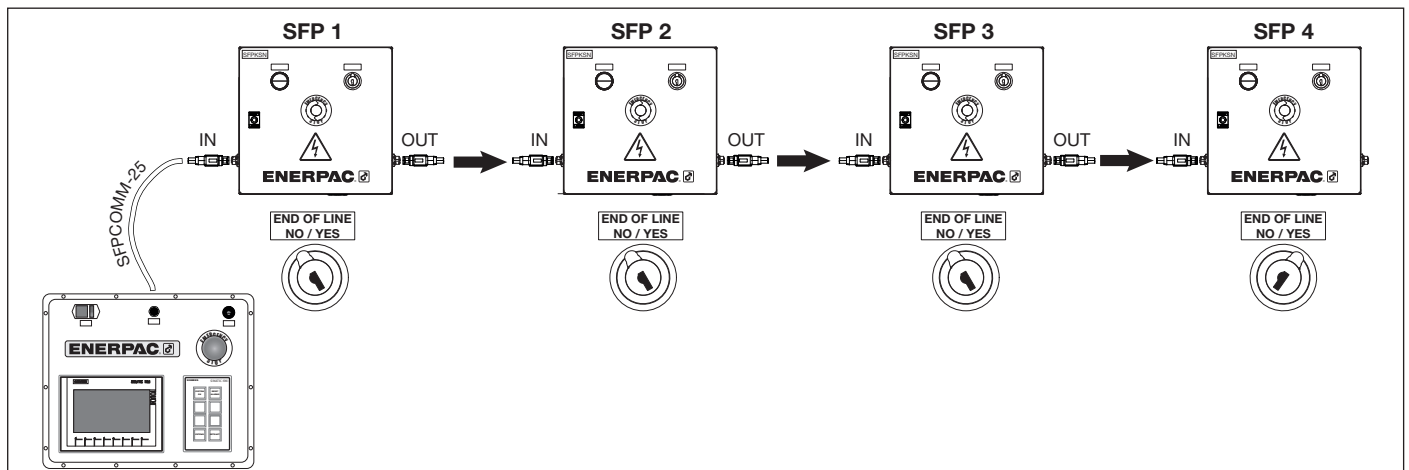

Figure 8, Scheme Connection for 4 SFPs with 1 SFPKMN and 4 SFPKSN
1. Follow the previous steps from 1 to 4 for every SFP pumps to be connected. Refer to Figure 8 for a connection scheme.